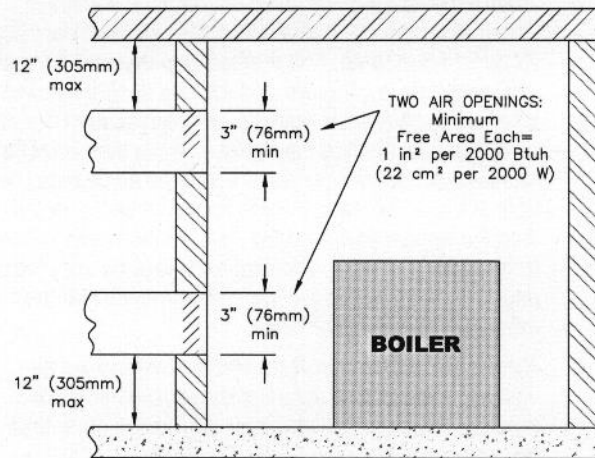

Figure 1.5: Air Openings – All Air from Outdoors through Horizontal Ducts
- ii. Where communicating with the outdoors through horizontal ducts, each opening shall have a minimum free area of 1 in2 per 2000 Btu/hr (22 cm2 per 2000 W) of total rated input for all appliances in the space. See Figure 1.5.